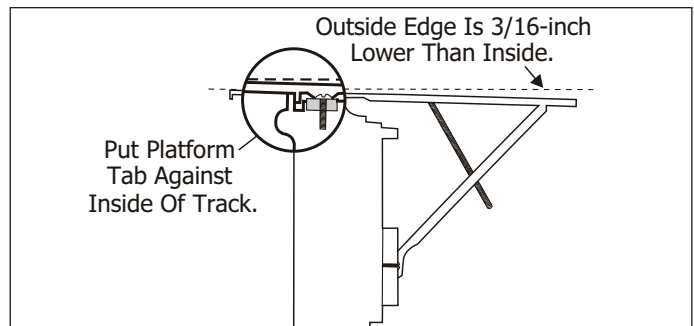

Figure 2-41.
7. Adjust platform assembly so that outside edge is 3/16-inch lower than inside edge (See Figure 2-41). This ensures proper water drainage from the air conditioner.